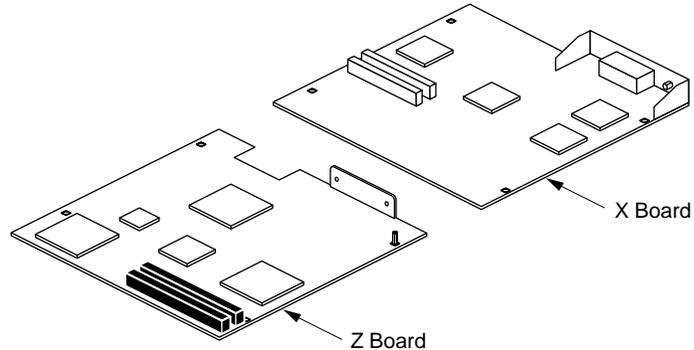

Figure 2-1 The Z Board and the X Board
The XZ graphics upgrade consists of two boards, the Z board and the X board, as shown in Figure 2-1. You install the Z board on the Indy system board first, and then install the X board on top of the Z board. Follow the instructions below.
1. Identify the Z board. It is the one with a small, round I/O connector on the back panel, and a rectangular cutout at the rear of the board. (See Figure 2-1.)